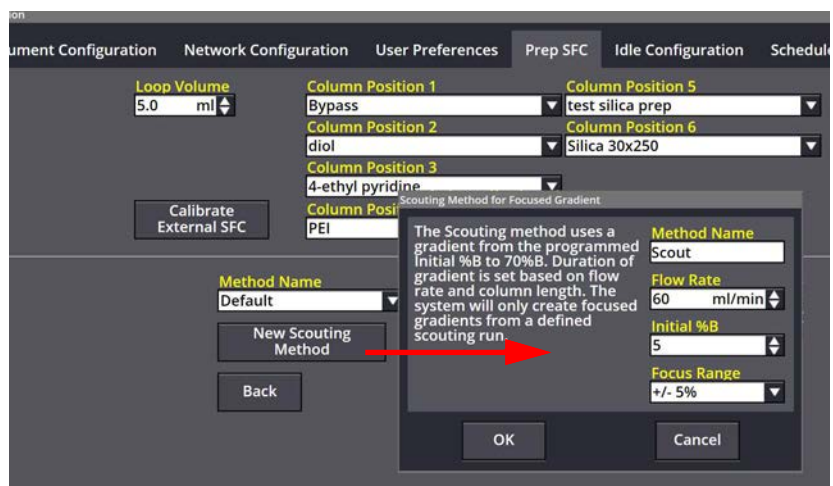

Figure 2-14 Scouting Method definition window
4. Select NEW SCOUTING METHOD. This opens the SCOUTING METHOD FOR FOCUSED GRADIENT window (Figure 2-14).